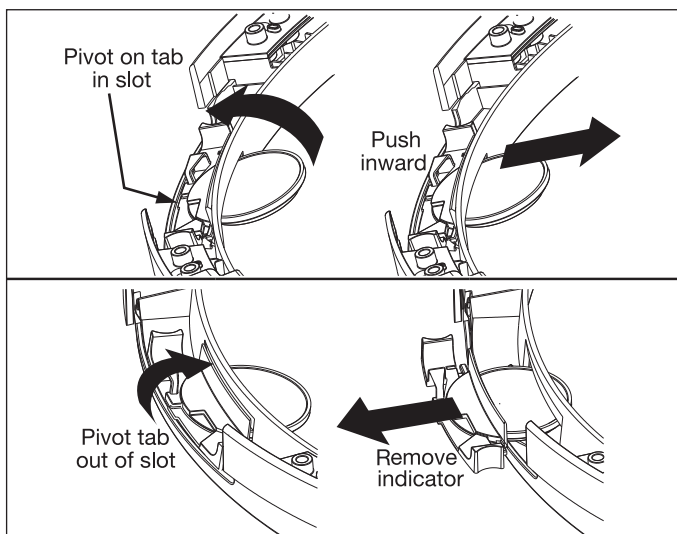

Figure 4-8.
5. Rock the tab upward. (See Figure 4-8)
6. Pull the indicator out and remove from unit. (See Figure 4-8)